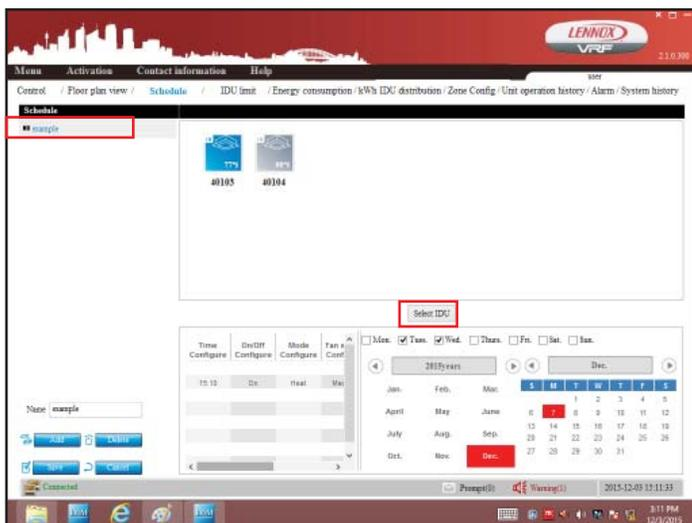

Figure 29. Remove Indoor Units from Schedule
1. Tap the schedule to be modified from the list on the left column. Tap the Select IDU button to modify the assigned indoor units. See figure 29.